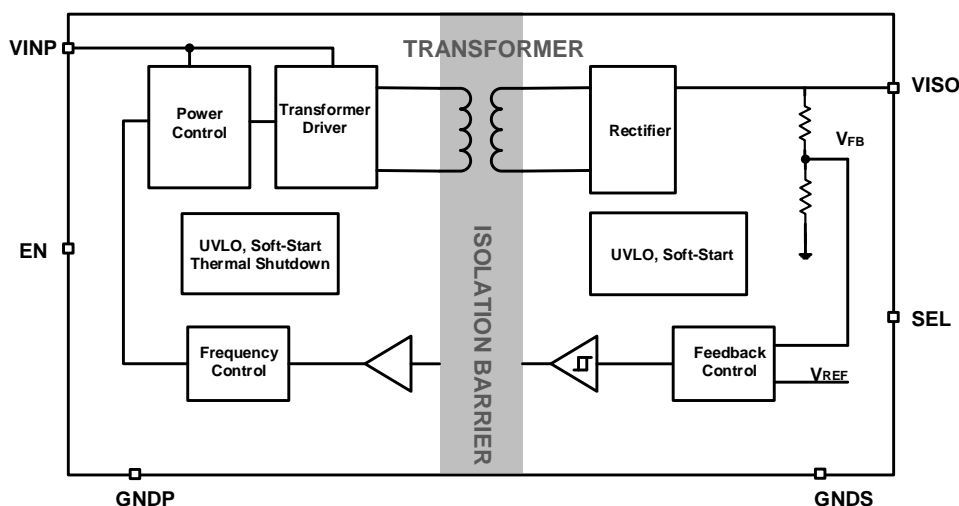

Figure 8-1 Functional Block Diagrams
The CA-IS3105W is a complete isolated DC-DC converter designed to provide isolated power with up to 650mW output power across a 5kV_{RMS} isolation barrier. The device operates over 4.5V to 5.5V input and uses a proprietary control mechanisms. The input supply V_{INP} is provided to the primary power controller that switches the power stage connected to the integrated transformer. Power is transferred to the secondary side and regulated to a fixed output voltage set by the SEL pin. The soft-start feature allows to reduce input inrush current and avoid output overshoot. The device also incorporates an output enable (EN) control and undervoltage lockout function that allows the user to turn on the part at the desired input-voltage level. Figure 8-1 shows the CA-IS3105's functional block diagrams. Connect the EN pin to the VINP pin or force this pin high to turn on the DC-DC converter. Force this pin low to disable the device and enter low-current shutdown mode. This device offers a ready-made, reliable, easy-to-use solution and allows users save PCB space and reduce design time for the popular 5V, 3.3V voltage rails.